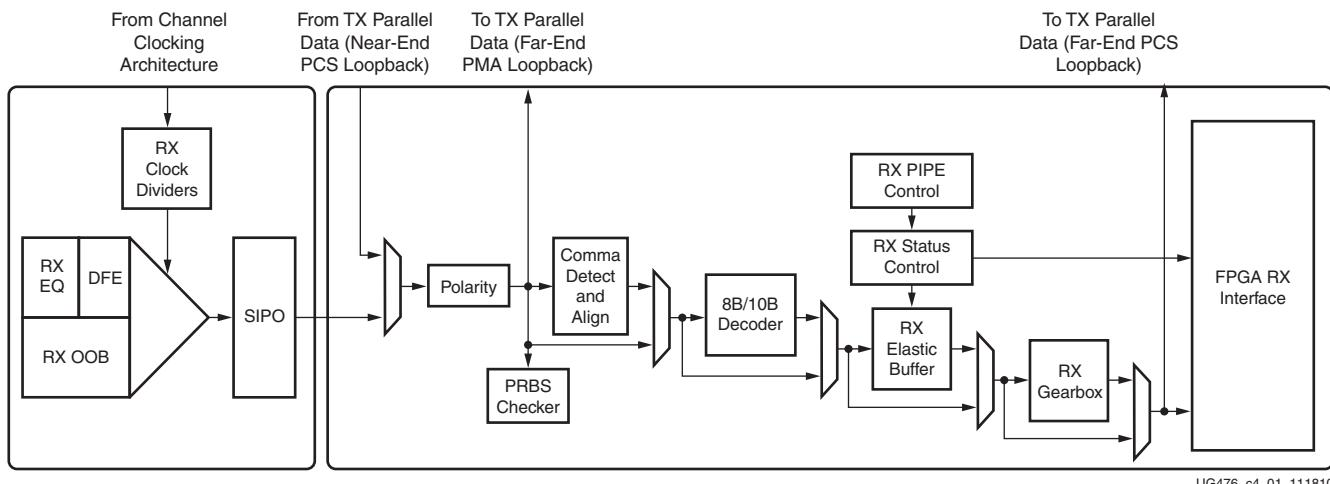

Figure 4-1: GTX/GTH Transceiver RX Block Diagram
This section shows how to configure and use each of the functional blocks inside the receiver (RX). Each GTX/GTH transceiver includes an independent receiver, made up of a PCS and a PMA. Figure 4-1 shows the blocks of the GTX/GTH transceiver RX. High-speed serial data flows from traces on the board into the PMA of the GTX/GTH transceiver RX, into the PCS, and finally into the FPGA logic. Refer to Figure 2-9, page 47 for the description of the channel clocking architecture, which provides clocks to the RX and TX clock dividers.
The RX analog front end (AFE) is a high-speed current-mode input differential buffer (see Figure 4-1). It has these features: